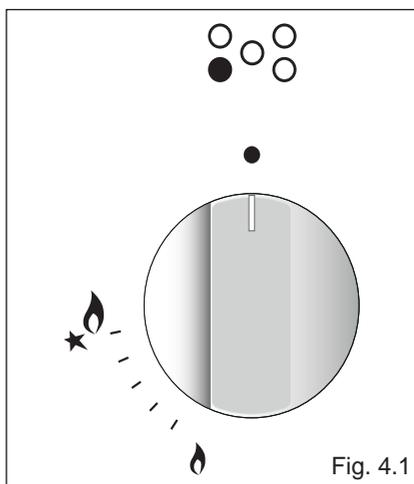

Fig. 4.1
Each hob burner is controlled by a separate gas valve operated by a control knob (fig. 4.1) which has 3 positions marked on the control panel, these are:
1. Press in the corresponding knob and turn counter-clockwise to the full flame position marked by the  symbol (fig. 4.1) and hold the knob in until the flame has been lit. In the case of a mains failure light the burner with a match or lighted taper.